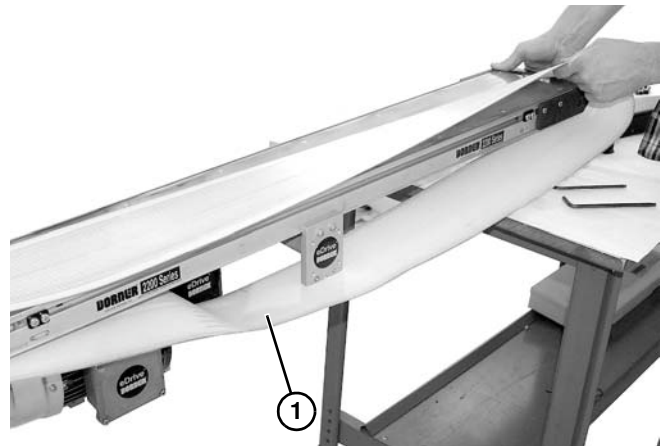

Figure 44
4. Remove belt (**Figure 44, item 1**) from conveyor frame.